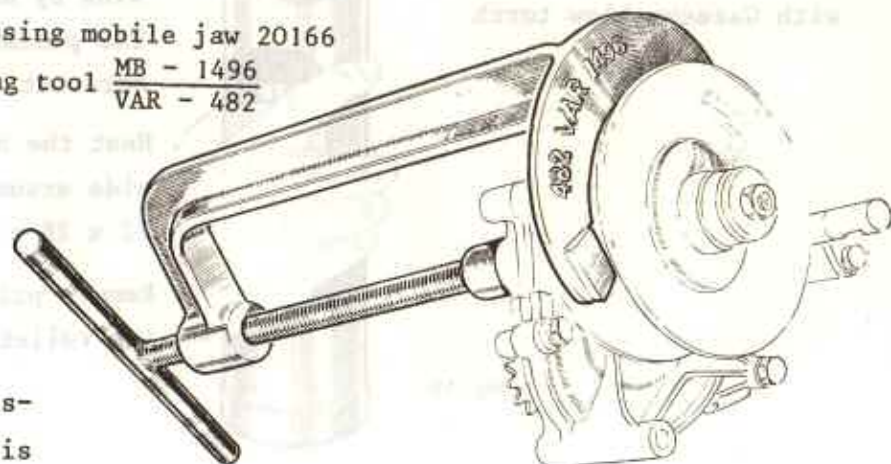

Fig. 7
Compressor on Fig. 7 is used to dismount the pulley without dismounting the relay box, on all machines with relay boxes. It is necessary however to dismount the entire exhaust pipe.
- Compress pulley jaw 20166 with compressor tool $\frac{\text{MB} - 1496}{\text{VAR} - 482}$ Fig. 7
- . When remounting the fixed jaw of the pulley 20166 it is essential to use compressor MB 1496 Fig. 7.